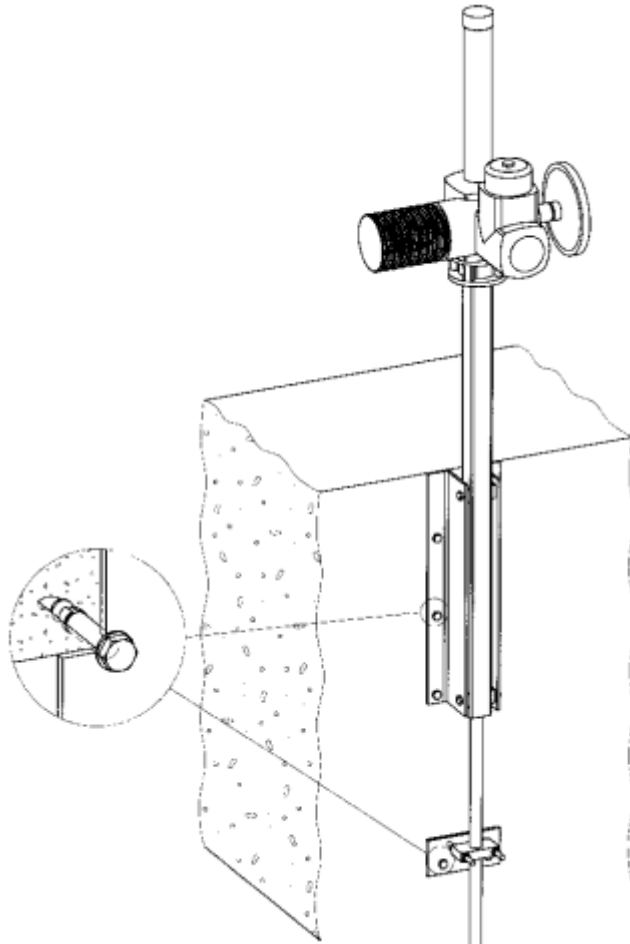

Fig. 11
- Align coupled extension rod with plumb and level acc. Fig. 11.